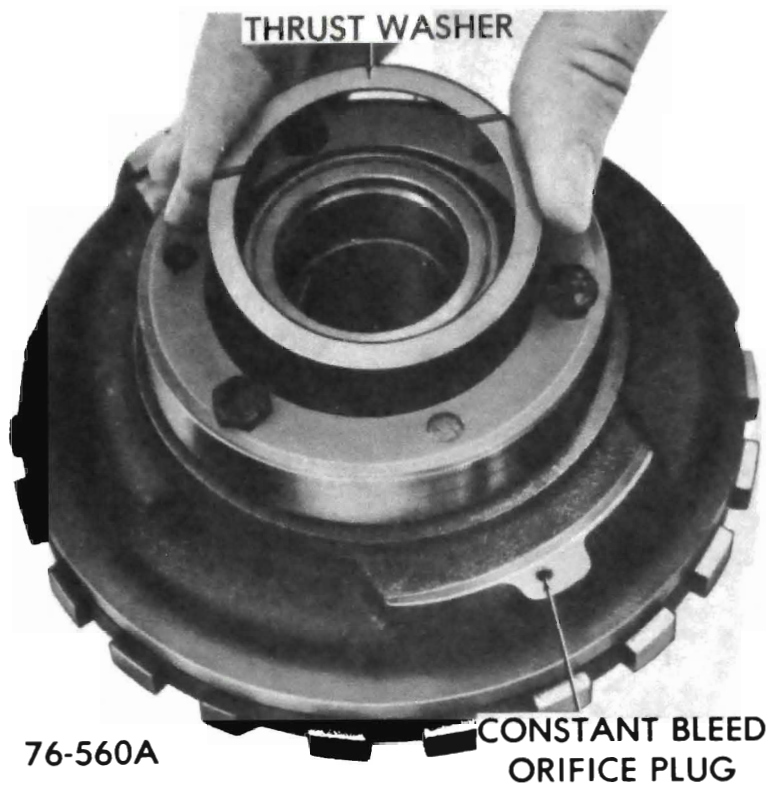

Figure 76-102
2. Remove center support to reaction carrier thrust washer. See Figure 76-102.